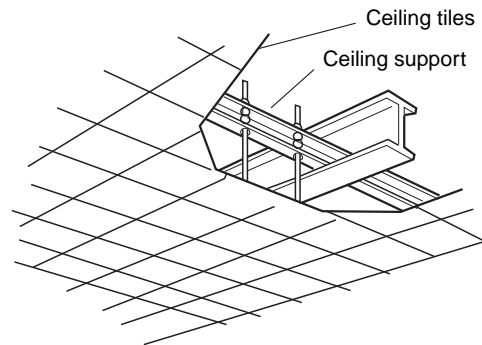

Fig. 3-75
- Use existing ceiling supports or construct a suitable support as shown in Fig. 3-75.